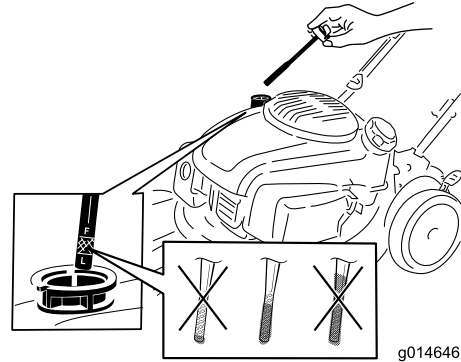

Figure 4
1. Remove the dipstick (Figure 4).
2. **Slowly** pour oil into the oil fill tube until the oil level reaches the Full line on the dipstick (Figure 4). **Do not overfill.** (Max. fill: 22 oz. (0.65 l), type: 10W-30 or SAE 30 detergent oil with an API service classification of SJ or higher.)
Note: Each time you check the oil level, remove the dipstick and wipe it clean, insert it into the oil filler neck (but **do not** screw it in), then remove it again and check the level (Figure 4).